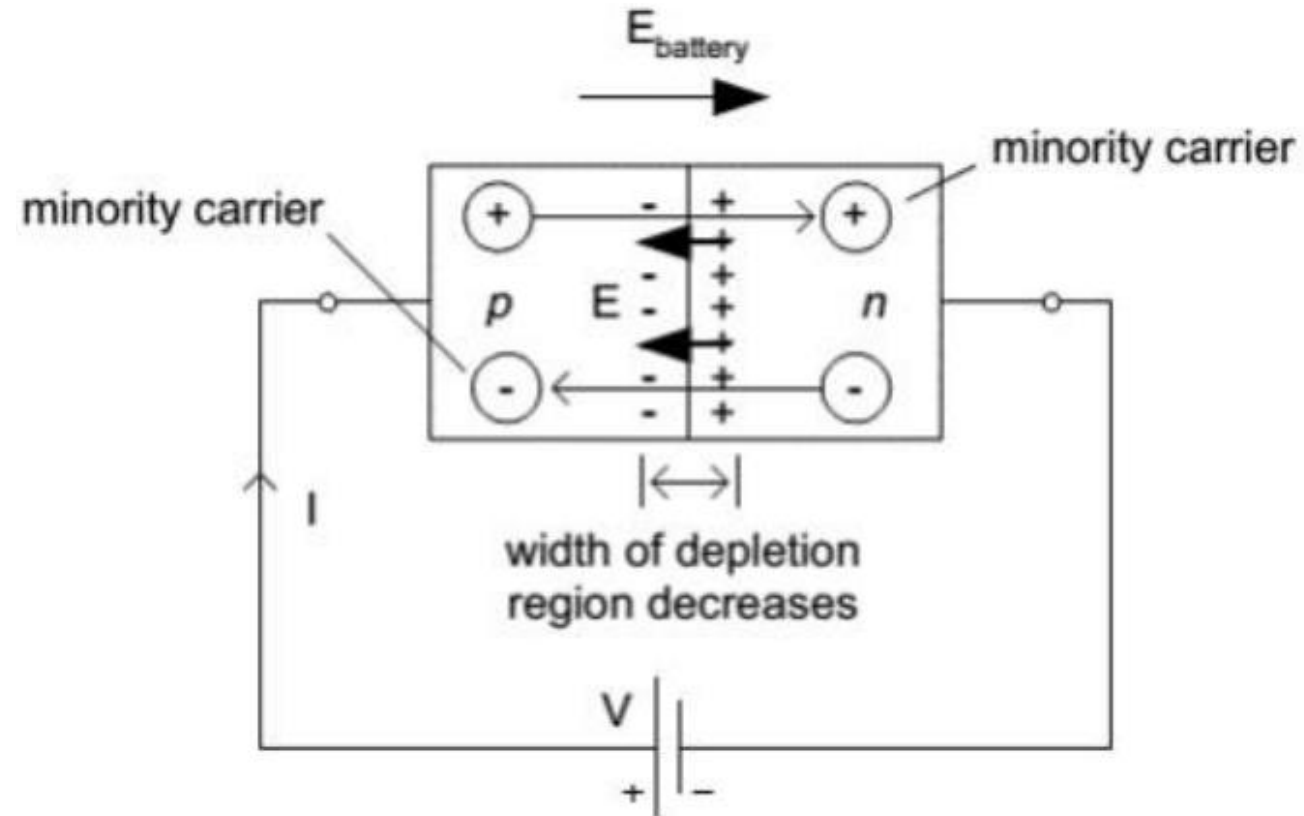

Fig. 1. Forward Biasing
- Fig. 1 shows a dc voltage connected in a direction to forward-bias the pn junction.